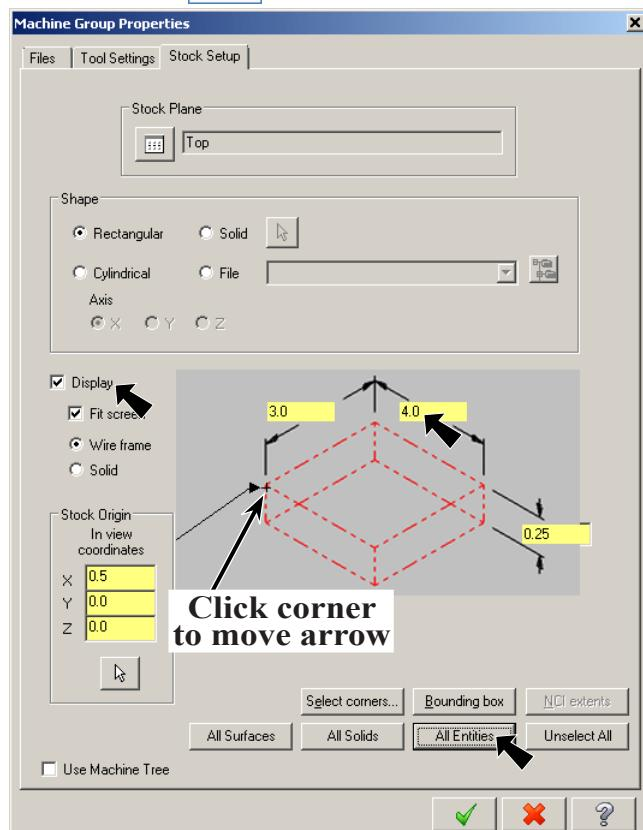

Fig. 29
Step 4. Click **Stock Setup** in Toolpaths Manager, **Fig. 29**.
Step 5. Click left front top corner of the stock to move the origin, **Fig. 29**. After you click corner the arrow will point to corner.
Step 6. Click **All Entities** in Stock Setup dialog box, **Fig. 29**.
Step 7. Confirm **Display** check box is checked, **Fig. 29**.